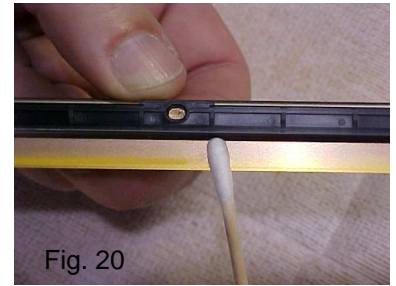

Fig. 20
4. Clean both sides of the doctor blade with an Oasis 6" cotton swab (Fig. 20 & 21).